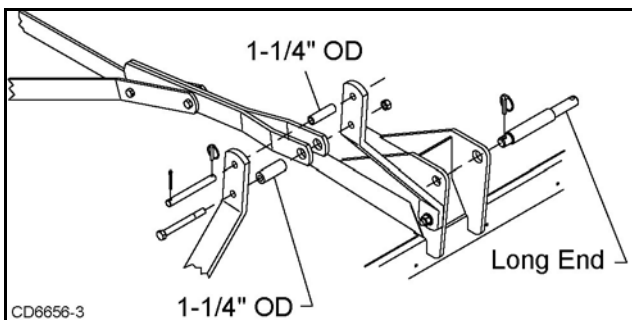

Figure 5. DS120 Cat. 3 Standard Hitch Connection
2. Connect the tractor top link to the cutter A-frame using the upper holes and 1-1/4" OD sleeve. The break link must be placed in the lower holes of the A-frame. See Figure 5.